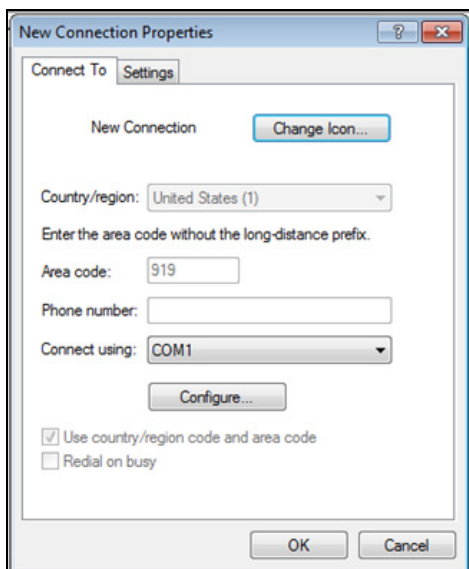

Figure 3. Selecting the COM Port
8. From the "**Connect Using...**" drop-down list, select the COM port that you are using (see Figure 3).